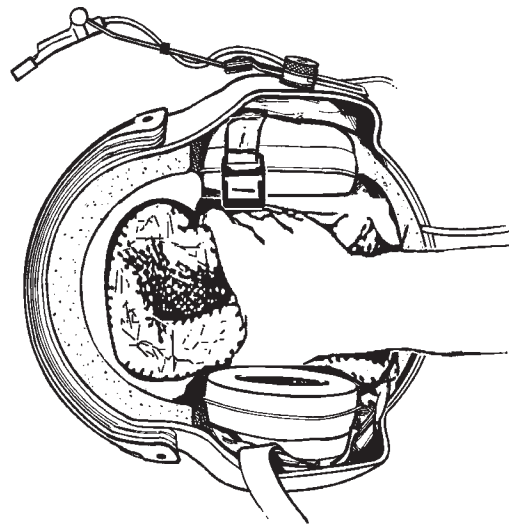

Figure 4-3. Removing TPL
2. Referring to Figure 4-3, squeeze sides of TPL and remove it from helmet by disengaging the front and rear hook-and-pile fasteners.